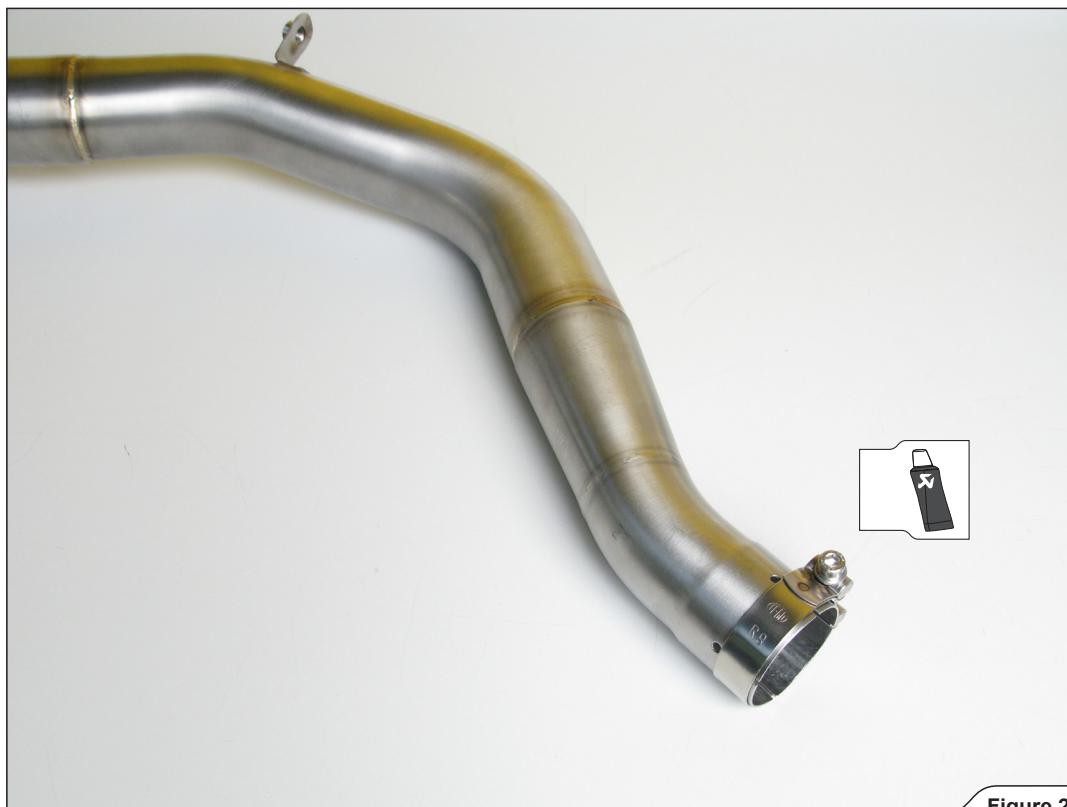

Figure 29
8. Attach the Akrapovič metal clamp onto the muffler inlet, as shown (Figure 29).